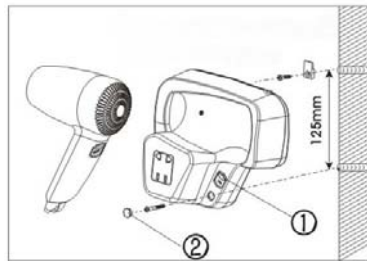

Fig. 2
- ❶ Mark and drill 2 holes, 125 mm apart, as shown in Fig. 2. Use 6 mm drill. Insert the enclosed dowels into the holes and fix the plastic hanger enclosed in the upper screw hole.
- ❷ Slide the base plate of the holder in place onto the hanger, thus attaching the base plate. Fix the holder onto the wall and
cover the lower screw hole with the cap marked ❷ in Fig. 2.
- ❸ The unit is ready for use when plugged in, and when the power switch is in ON position.
- ❺ Replace the plastic cap marked ❷ on Fig. 2 to cover the lower screw hole; then reassemble the front of the holder.
- ❻ The unit is ready for use when plugged in, and ON position.